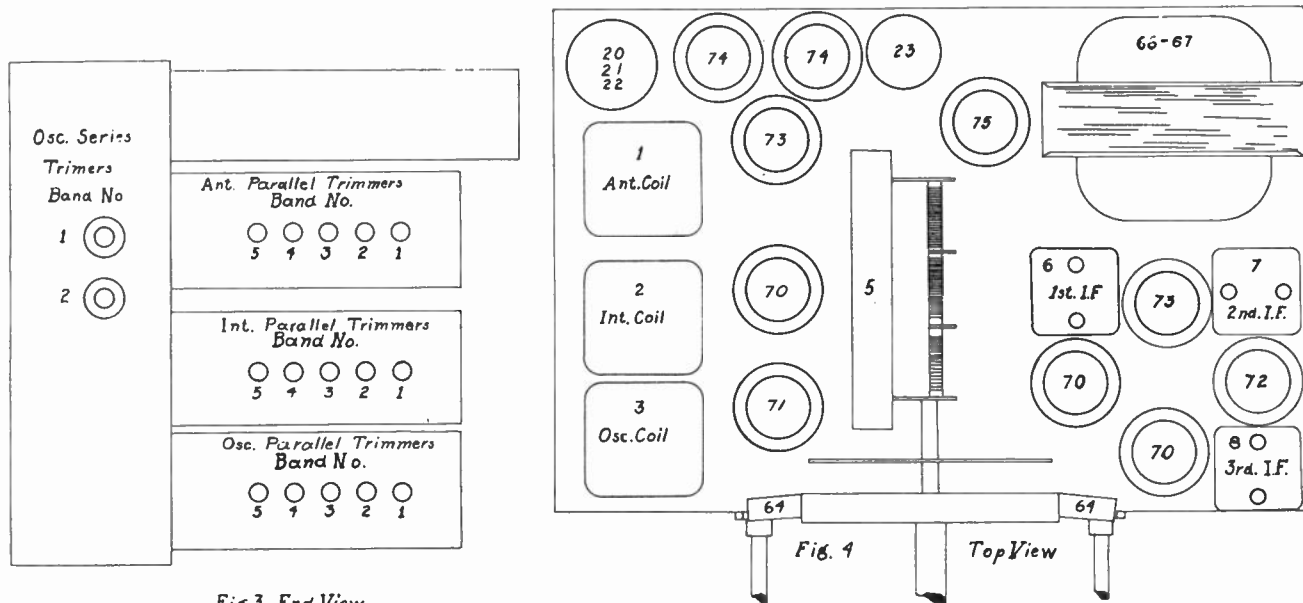

Fig 3 End View
(2) Tune station selector in the region of 60—Band No. 2—on dial for maximum reading on the output meter.
(3) Close the oscillator series trimmer condenser for Band No. 2, Fig. 3, 1/8 turn and re-tune station selector to 600 Kc. signal for maximum output, noting reading on output meter.
(4) If meter reads higher after operation (3) repeat the operation again and again until no further improvement in the reading of the output meter can be obtained. If meter reads lower after operation (3) open the oscillator series trimmer condenser 1/8 turn and re-tune station selector to 600 Kc. signal, noting reading on output meter as above and repeat as many times as necessary to obtain the highest meter reading. Do not reset the parallel trimmer condensers at this frequency.